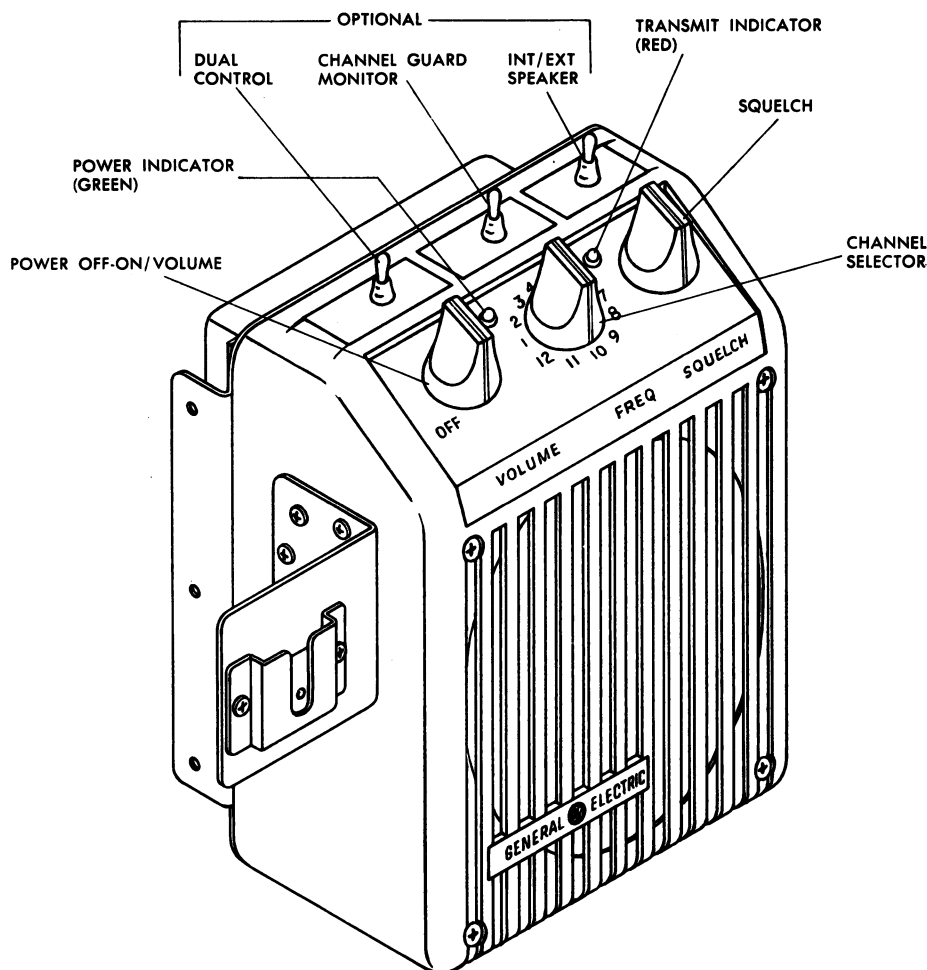

Figure 1 - Weatherproof Control Unit
| Figure 1 - Weatherproof Control Unit | 1 |
The Weatherproof Control Unit (see Figure 1) contains an OFF-ON/VOLUME control, SQUELCH control, a weatherproof speaker, power ON indicator (green), Transmit indicator (Red), a printed wire board, and optional controls. All external connections are made to the back plate which attaches to the rear of the cast aluminum housing. The back plate is secured to the cast housing by four (4) #8 screws that pass through the corners of the cast housing. An attaching hood (rear cover) is secured to the back plate by 9 screws. A weatherproof seal between the back plate and the rear cover is provided by a rubber gasket around the edge of the back plate.
MASTR II Weatherproof Control Units may be equipped with different options. All controls and indicator lights are shown in Figure 1.